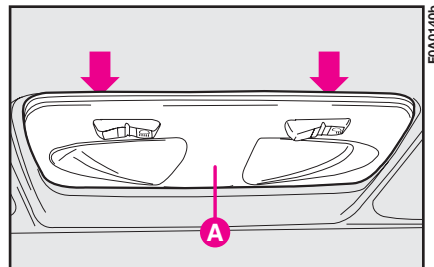

fig. 37
1) Remove the ceiling light **A-fig. 37** by releasing the clipped on lens frame in the point shown by the arrow.